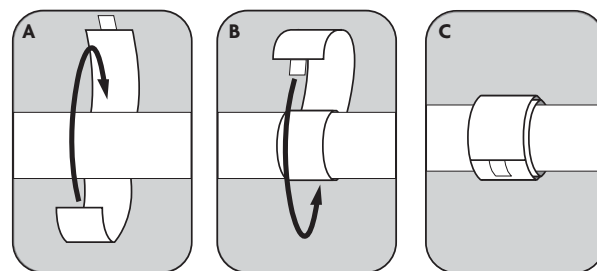

Fig. 2
4. Position and attach the remaining straps to the bed side rails by (Fig. 2):